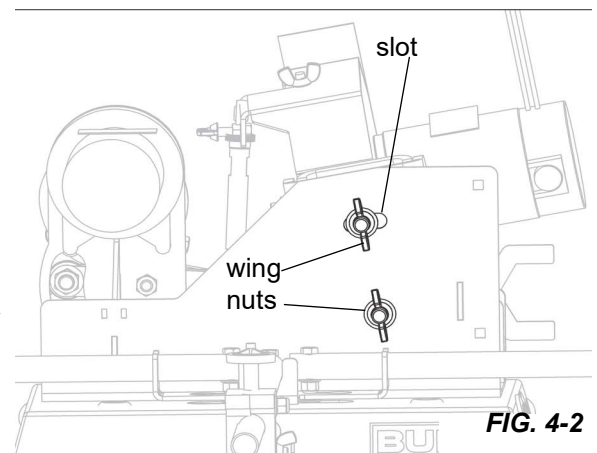

FIG. 4-2
8. Loosen the wing nuts on the sharpener head to allow the head to rotate. (Do not remove the wing nuts.) **See Fig. 4-2.**